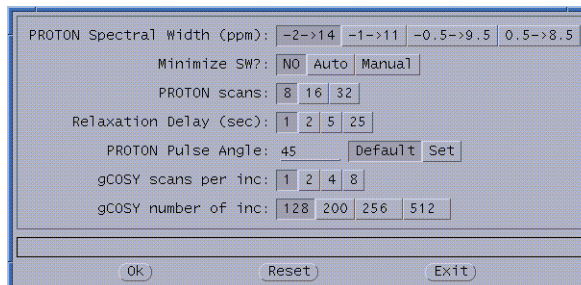

Figure 48. CustomQ ^1H and ^1H Cosy Acquisition Options
5. Click on **OK** and click on **Exit**. The window shown in **Figure 48** opens.